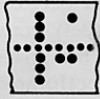

FIGURE 77.
2. Add a Thin space after the first spaceband (see Figure 77) and after each spaceband thereafter as the remainder of the line is repunched.